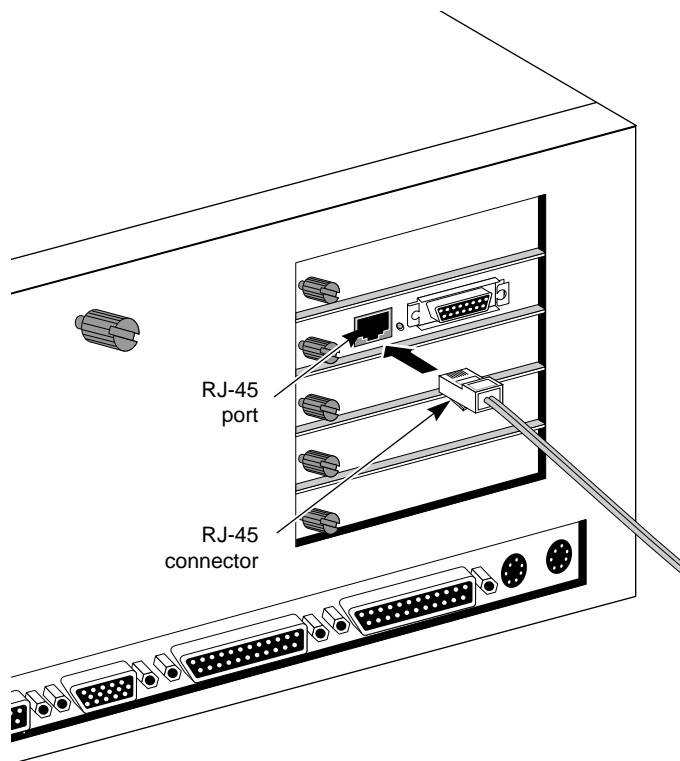

Figure 4-4. Connecting Twisted-pair Cable
3. Insert the RJ-45 plug into the adapter socket (see Figure 4-4).